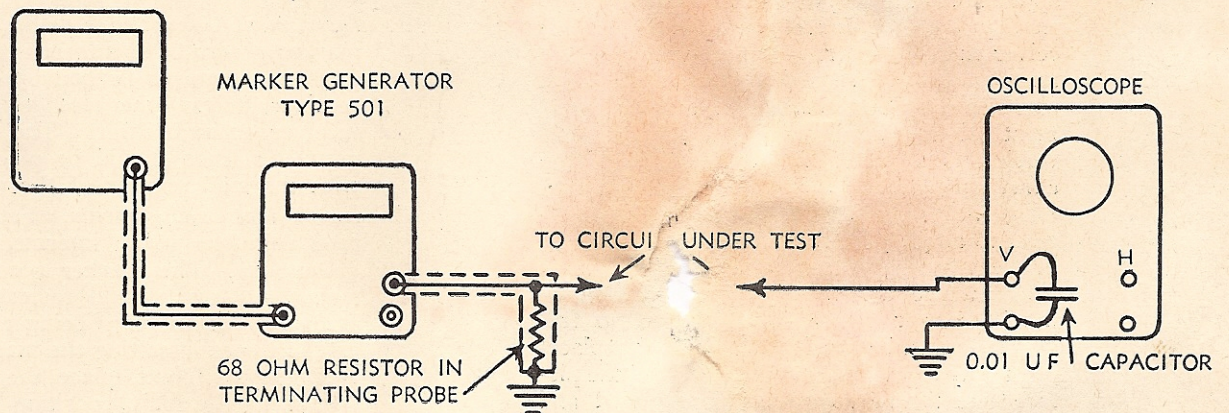

Figure 2—Connecting the Sylvania Sweep Generator to the Marker Generator
The input cable of the marker generator is designed to fit the output socket of the Sylvania Sweep Signal Generator Type 500. (Connections may be made as illustrated in Fig. 2). With this arrangement the sweep generator output is tied internally to the marker generator. The combined output signal is fed to the TERMINATING PROBE and there paralleled with a 68 ohm load resistor.
C. *Refining the Marker Pip.* It should be noted that in Fig. 2 and 3 a 0.01 uf capacitor has been placed across the input of the oscilloscope. When using an oscilloscope capable of passing high frequency signals, the marker pip may appear fuzzy or drawn out horizontally. This fuzziness or "grass" is caused by the beating of the marker generator against the constantly changing frequency of the sweep generator. The frequency of the "grass" is progressively higher as the sweep generator frequency changes from center frequency to plus or minus the maximum sweep frequency. This "grass", if not eliminated, will make an accurate frequency check impossible. The purpose of the 0.01 uf capacitor is to bypass the unwanted signals to ground, and leave only a clear sharp marker pip.